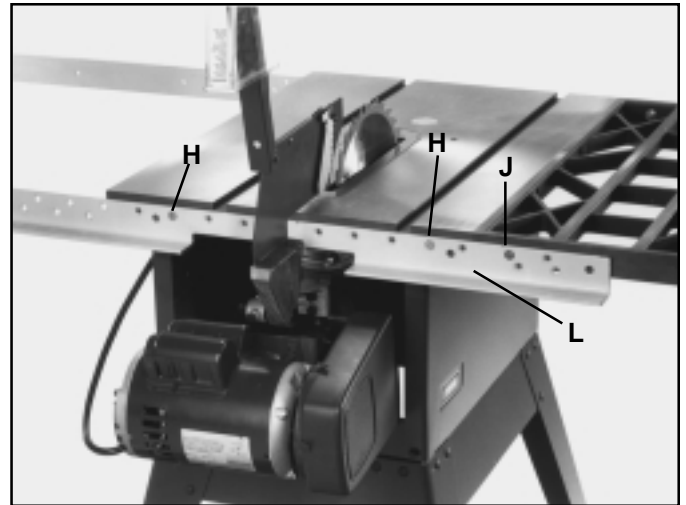

Fig. 13
12. Check to make certain there is no interference such as casting ribs behind the rear edge of saw table and drill a minimum of two 1/4" through holes through the saw table using the holes in rear rail as a template. Fasten rear rail to saw table using two 1/4-20 x 1-1/4" long flat head screws (H) Fig. 13, flat washers, lockwashers and hex nuts supplied. Drill an additional through hole in the extension wing using one of the holes in the rear rail as a template and fasten rear rail to extension wing using a 1/4-20 x 1-1/4" long flat head screw (J) Fig. 13, flat washer, lockwasher and hex nut supplied. **IMPORTANT:** If there is no room in rear edge of table to drill through holes, it will be necessary to drill #7 holes in table and tap holes using a 1/4-20 tap.
13. Figure 13 illustrates the bar clamp removed and the rear rail (L) fastened to rear of the saw table and extension wing using the hex head screws (H) and (J).